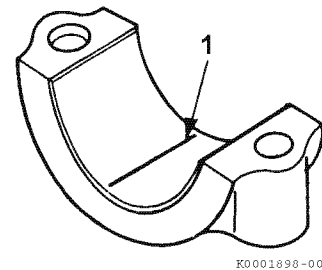

Figure 6-48
4. Place a piece of PLASTIGAGE® (**Figure 6-48, (1)**) along the full width of the bearing insert.